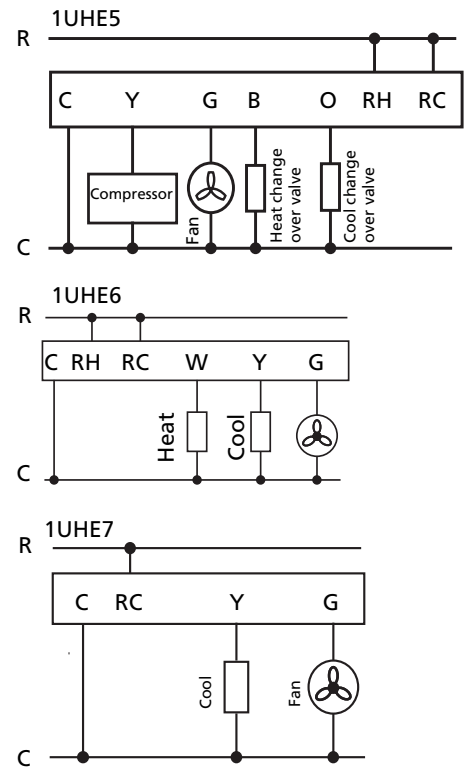

Figure 7 – Wiring Diagrams
1. Connect the electrical wires to the corresponding terminals on the terminal block following the circuit diagram inside the top cover of the unit. See Figure 7.